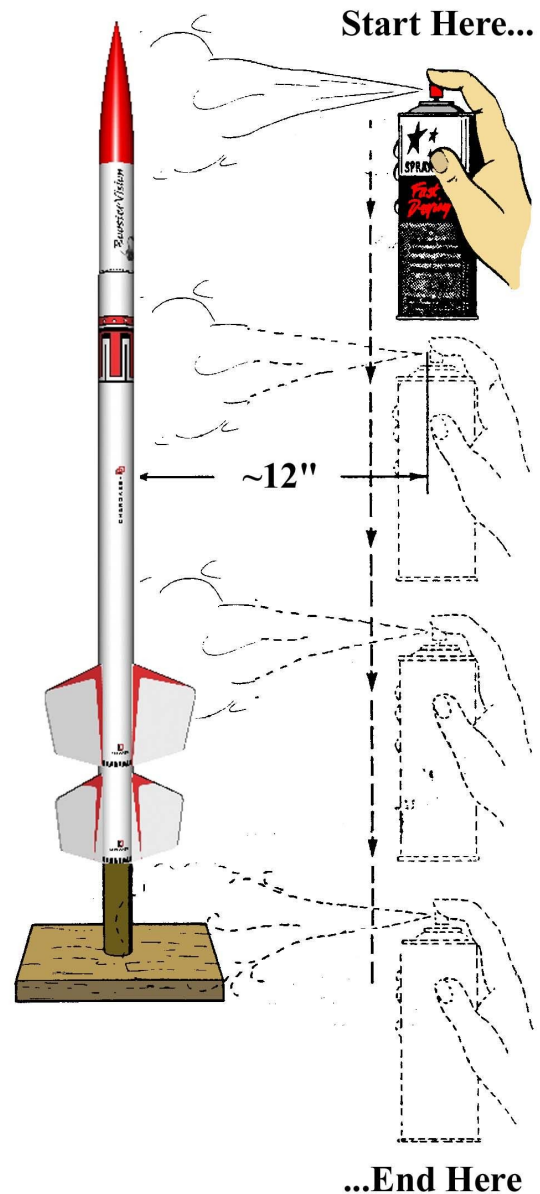

Figure 11
- Step 31** Tack rag the model after sanding the filler, then spray the entire model with your choice of primer. As shown in the illustration of Fig. 11, spray the model using a top-down method to avoid paint runs. We have found Rust-O-Leum Clean Bare Metal Primer in white to be an excellent product, and Krylon's H2O Prime Coat as a good second choice. Spray at least two coats before sanding, allowing at least a full day between coats to dry. Sand and re-prime as needed to fill any remaining surface imperfections. After the final spray of primer, give the model at least two full days to eliminate any remaining solvents before